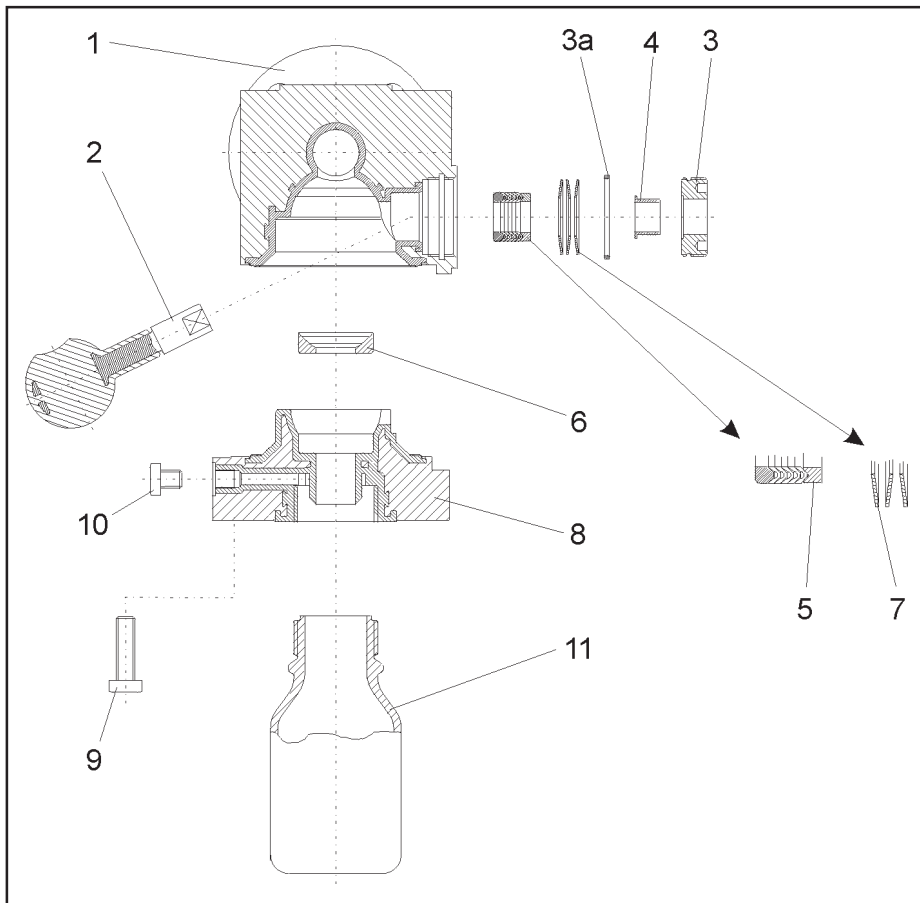

Fig. 3 – Exploded view of BR 27d Sampling Valve
Following this, insert each V-ring separately finishing with the stainless steel packing follower. Refer to the exploded view diagram (Fig. 3) for the exact arrangement of the packing.
Insert the set of Belleville spring washers (7). Refer to the exploded view diagram (Fig. 3) for the exact arrangement. Use a special wrench to put the ready-assembled packing gland into the body.